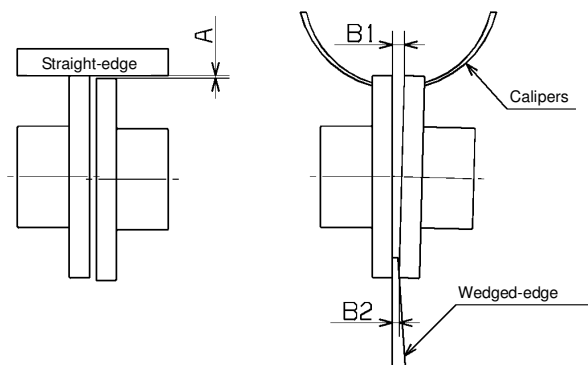

Fig 1.2-1
- (3) After checking the rotational direction, directly connect the motor and pump couplings.
- (4) For centering work, put a straight-edge on the periphery of both couplings, put a wedged-edge on both surfaces of the couplings, and use calipers, etc., as shown Fig 1.2-1. To conduct the centering work more easily and accurately, you should use a dial gauge.
- (5) In this step, verify coaxiality and parallelism at four points at 90° angles, to verify that the measured values do not exceed those listed in Table 1-1.